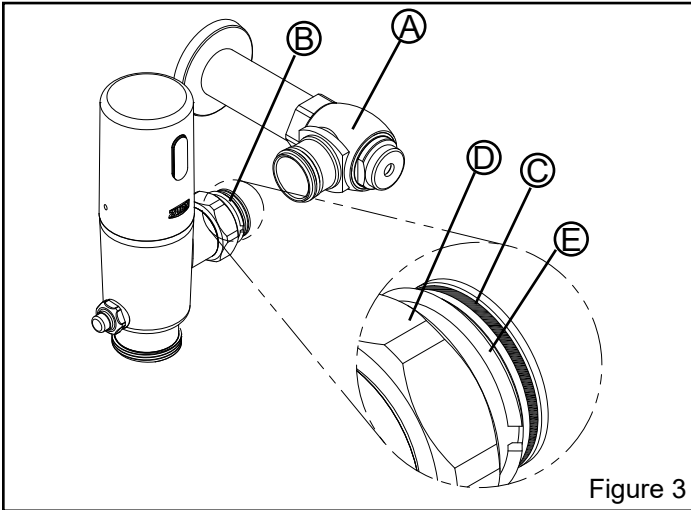

Figure 3
Prior to attaching flush valve to control stop(A) inspect and verify that the O-ring (C) is located within the O-ring groove at the tailpiece. Ensure the locking nut (D) and locking snap ring (E) are also present on the tailpiece. See Figure 3.